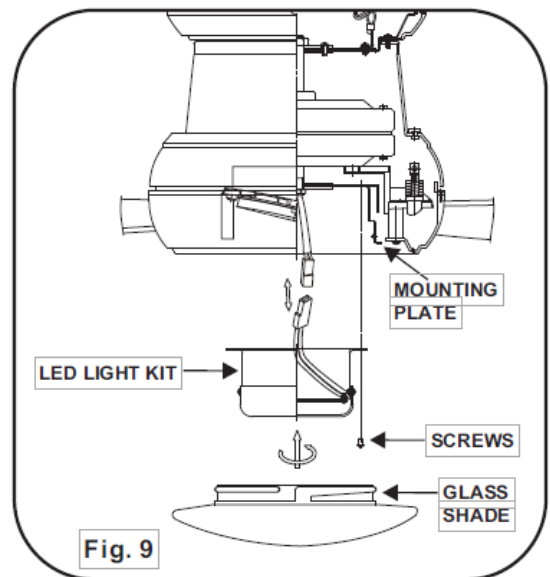

Fig. 9
3. Place the key holes in the LED light kit over the two mounting screws previously loosened from the mounting plate. Turn the LED light kit until the LED light kit locks in place at the narrow section of the key holes. Secure by tightening the two screws previously loosened and the one previously removed. (Fig. 9)
4. Raise the glass shade (or metal light cover) up against the mounting plate and secure it to the fan by turning the glass shade clockwise until snug. **DO NOT OVERTIGHTEN.** (Fig. 9)